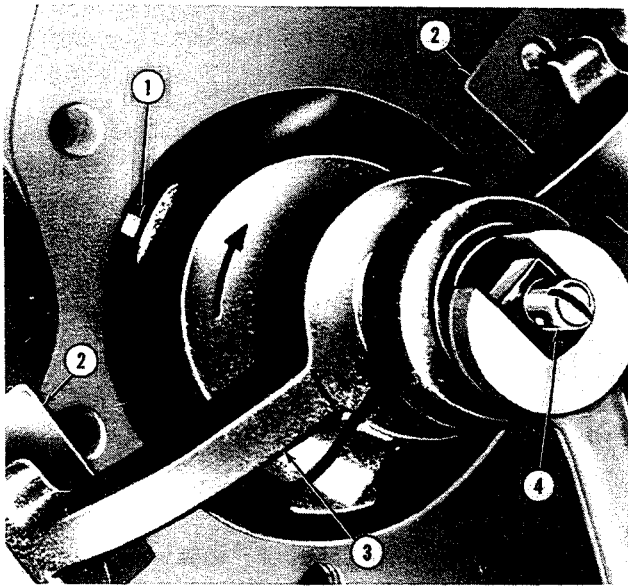

Figure 40
4. If necessary, remove the ridge from the top of each cylinder with a cylinder ridge reamer or a hand scraper, Figure 40. (Ridge removal is not necessary when reboring or if the old pistons are not to be used. However, it may be necessary to remove a ridge in order to remove an old piston.)